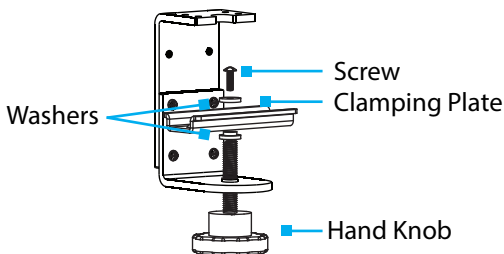

Figure 5
2. Use a **Phillips Head Screwdriver** to remove the **Screw** from the **Clamping Plate** attached onto the **Hand Knob**. (Figure 5)